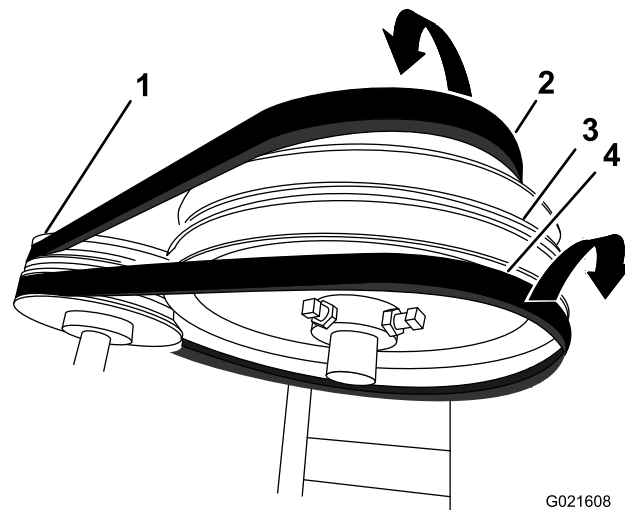

Figure 38
4. Slip the forward belt forward and off the idler pulley (Figure 38).
5. Slip the rear belt rearward and off the idler pulley (Figure 38).